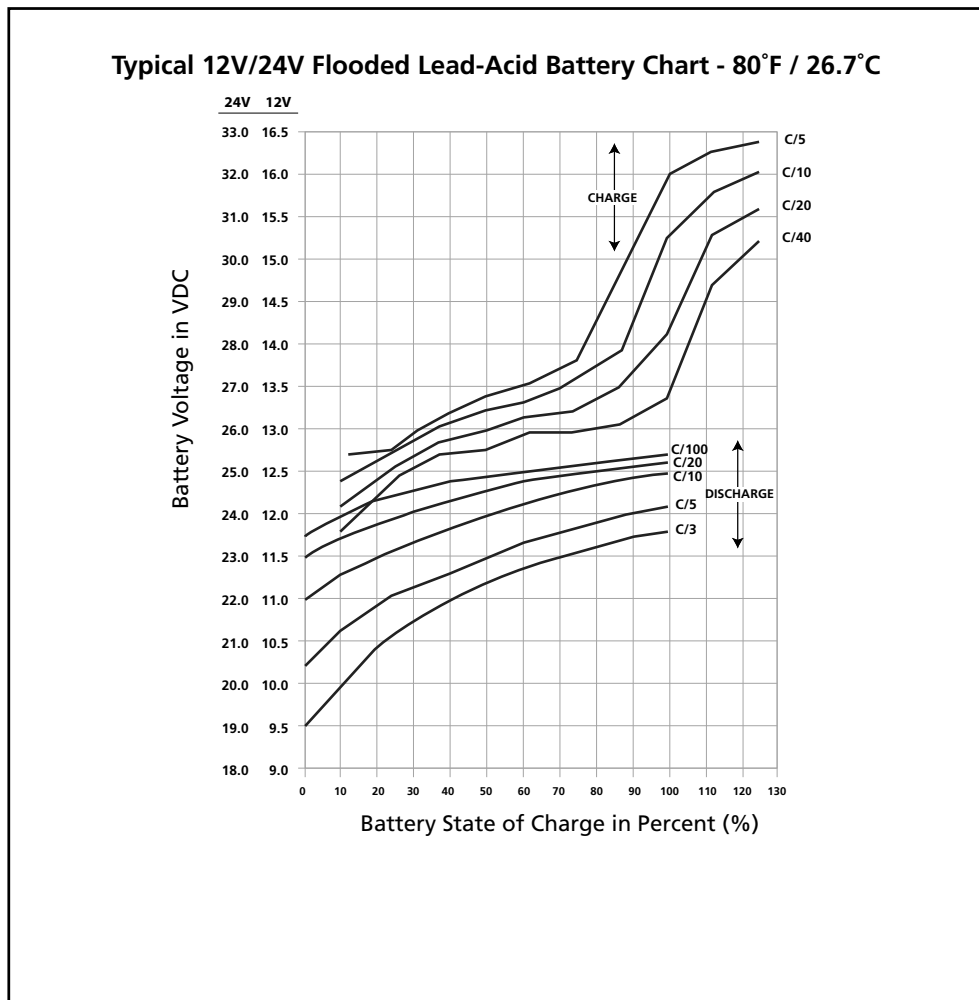

Fig 1.4.1 Charging / Discharging Curves for Typical 12V/24V Flooded Lead Acid Battery
1.4.11.1 Fig 1.4.1 shows examples of State of Charge / Discharge Curves for different *C-rates* for typical 12V / 24V Lead Acid Battery Bank / Bank at 80°F / 26.7°C. These curves are used to determine the State of Charge / Discharge of the battery based on its terminal voltage.
1.4.11.2 Example of Determining **State of Charge (using Fig 1.4.1)** when Charging 12V, 100Ah Battery at C-rate of 0.1C or C/10 or 10A: *Refer to Charge Curve marked C/10 of the upper 4 curves marked "CHARGE"*. States of Charge at different battery terminal voltages will be: (a) At 15.3V = 100% charged; (b) At 14.3V = 90% charged; (c) At 13.5V = 70% charged; (d) At 12.5V = 15% charged
1.4.11.3 Example of Determining State of Discharge (using Fig 1.4.1) when Discharging 12V, 100Ah Battery Pack / Bank at C-rate of 0.33C or C/3 or 33.3A: *Refer to Charge Curve marked C/3 of the lower 4 curves marked "DISCHARGE"*. States of Discharge at different battery terminal voltages will be: [a] At 9.5V = 100% discharged (*0% charged*); [b] At 10.4V = 80% discharged (20% charged): [c] At 11.5V = 28% discharged (*72% charged*) and [d] 11.75V = 0% discharged (*100% charged*)
The discharge curves in Fig. 1.4.1 show the % State of Charge versus the terminal voltage of typical Flooded Lead Acid Battery under different charge /discharge currents, i.e. “C-rates” and fixed temperature of 80°F. *(Please note that the X-Axis of the curves shows the % of State of Charge. The % of State of Discharge will be 100% - % State of Charge).*
As stated earlier at Section 1.4.14, the buzzer alarm is triggered when the voltage at the DC input terminals of the inverter has dropped to around 10.5V for a 12V battery pack / bank or 21V for 24V battery bank at C-rate discharge current of C/5 Amps. Please note that the terminal voltage relative to a particular State of Discharge decreases with the rise in the value of the discharge current. For example, terminal voltages for a State of Discharge of 80% (*State of Charge of 20%*) for various discharge currents will be as given at Table 1.4.5 (*Refer to Fig. 1.4.1 for parameters and values shown in Table 1.4.5*):
Inverters are normally provided with a protection to shut down the output of the inverter if the DC voltage at the input terminals of the inverter drops below a threshold of around 10V for a 12V battery or, 20V for 24V battery. Referring to the Discharge Curves given in Fig 1.4.1, the State of Discharge for various C-rate discharge currents for battery voltage of 10V / 20V is as follows: (Please note that the X-Axis of the curves shows the % of State of Charge. The % of State of Discharge will be 100% - % State of Charge):